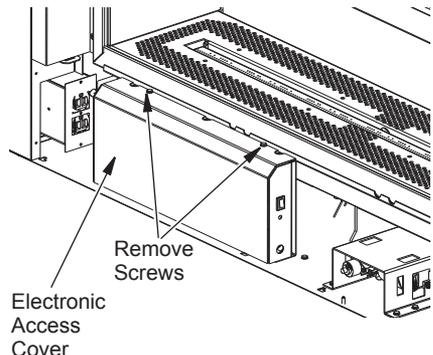

Figure 27 - Removing Control Access Cover (Face Bottom not shown for Clarity)
2. Remove 2 screws on top of the electronic access cover (See Figure 27).